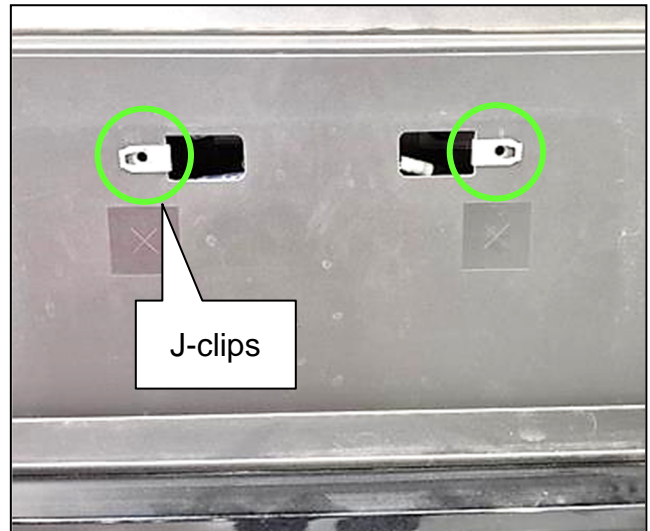

Figure 3
1. Remove the two (2) J-clips, as shown in Figure 3.